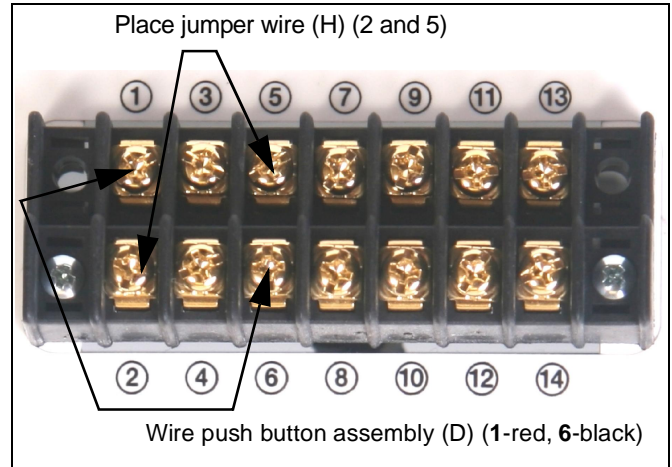

Figure 3
- Place the jumper wire (H) on the external wiring terminal contacts labeled **2** and **5**, and wire the push button assembly (D) to contacts **1** (red) and **6** (black). (See Figure 3).
2. Remove the jumper wire and supplied push button wiring (previously installed in the **Pre-Test Lift before Installation** section) from the external terminal block. (See Figure 3)